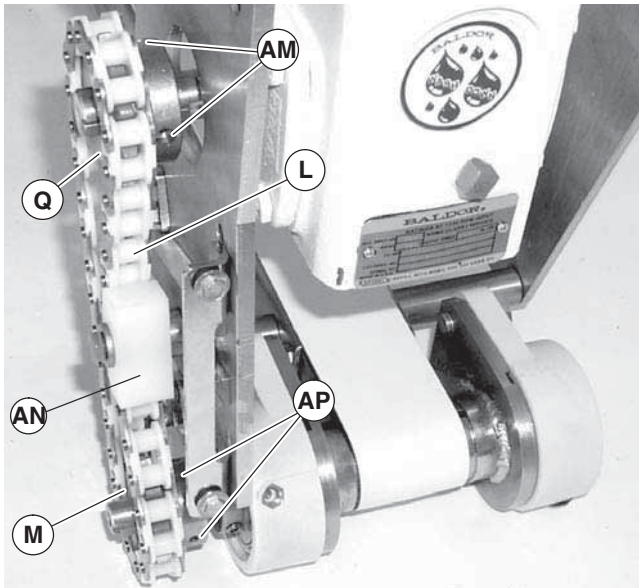

Figure 15
Make sure center of timing chain (Figure 15, item L) aligns with center of chain tensioner (AN). If necessary, loosen two set screws (AM) to move drive sprocket (Q) in or out. Tighten set screws. Also, if necessary, loosen two set screws (AP) to move driven sprocket (M) in or out. Tighten set screws.